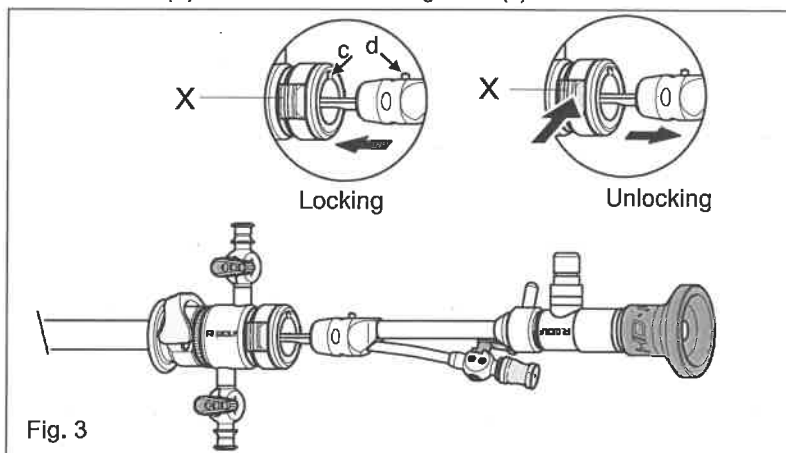

Fig. 3
- ◇ Insert the working insert (1) into the sheath (3) in such a way that the groove (c) and the pin (d) are aligned and push together until the connection engages automatically (Fig. 3)